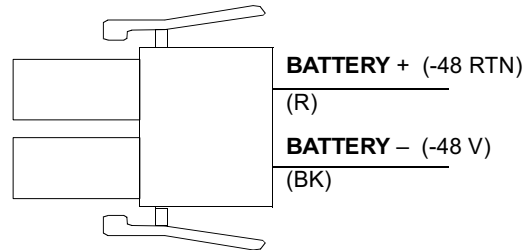

Figure 9-3 Wiring of the 14 AWG lead battery assembly connectors
- Step 3 Locate and disconnect 2-pin battery connectors Batt1 through Batt4 in the battery compartment. The wiring for the 2-pin battery connector is illustrated in Figure 9-3.